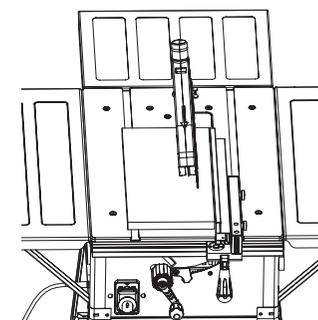

Fig. 19
3. Cutting extremely narrow workpieces (Fig. 19)